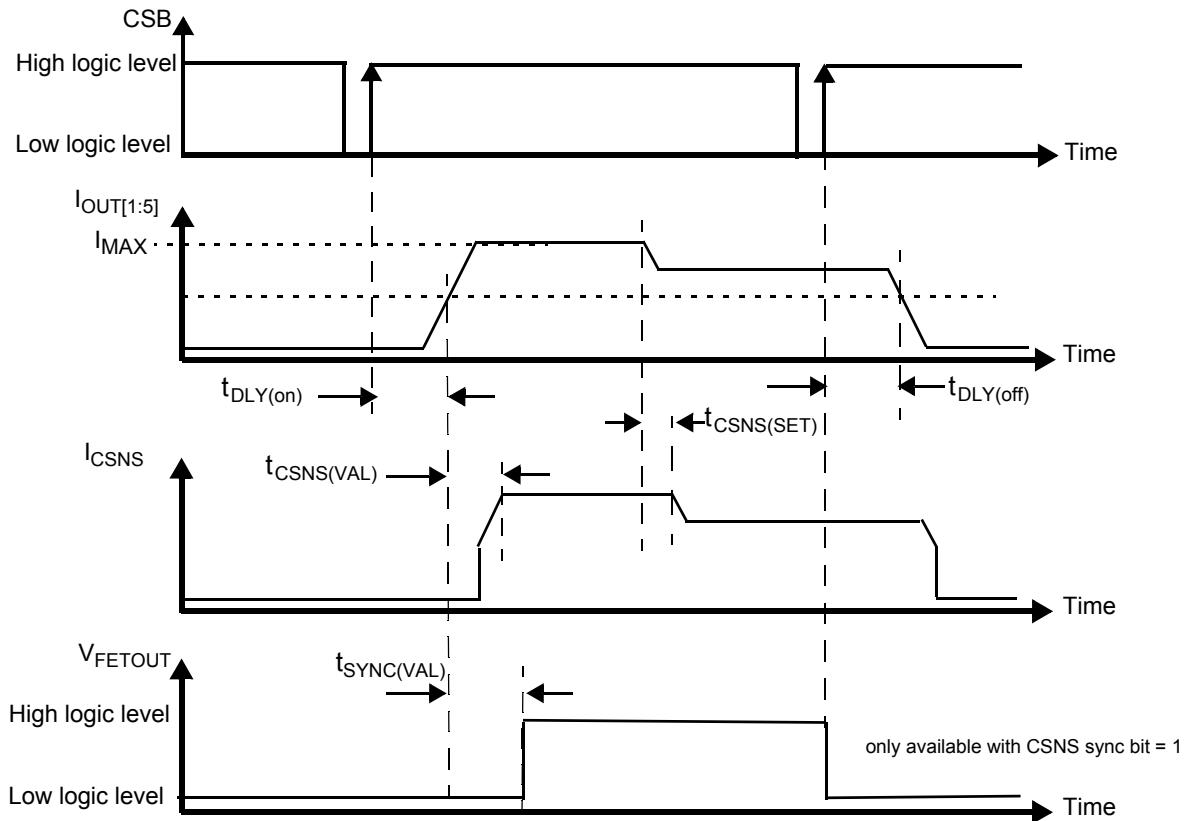

Figure 7. Current Sensing Time Delays
37. Not production tested. See Figure 7. Current Sensing Time Delays.
- 38. Not production tested. See Figure 7. Current Sensing Time Delays.